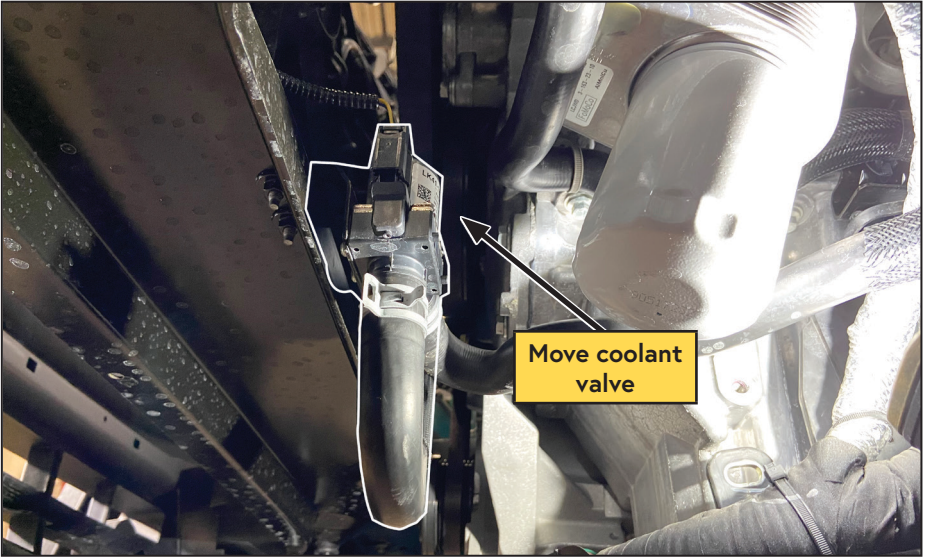

Figure 11 — Access tensioner bolt
- To provide better access to the tensioner bolt, remove the (x2) coolant valve fasteners and shift the coolant valve out of the way (Figure 11).